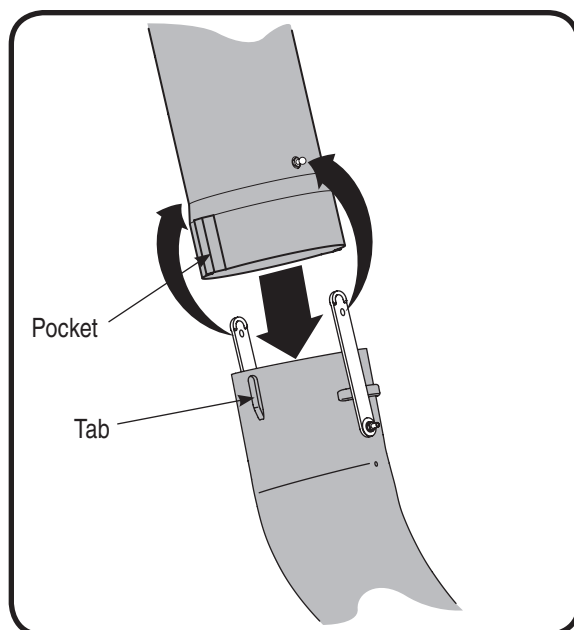

Figure 26
7. Place the lower end of the chute tube over the discharge chute so that the tabs on the discharge chute fits into the pockets on the chute tube. See Figure 26.
8. Secure by hooking the two retainer straps of the discharge chute to the pins on the chute tube. See Figure 26.